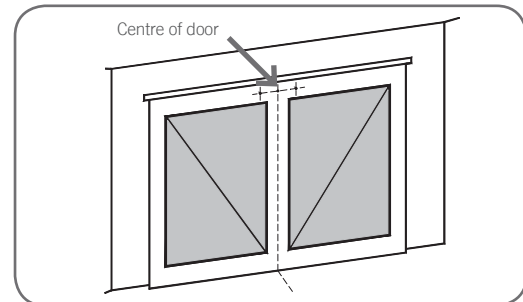

Fig. 14
- Draw two lines 21.5mm either side of this (**Fig. 14**).